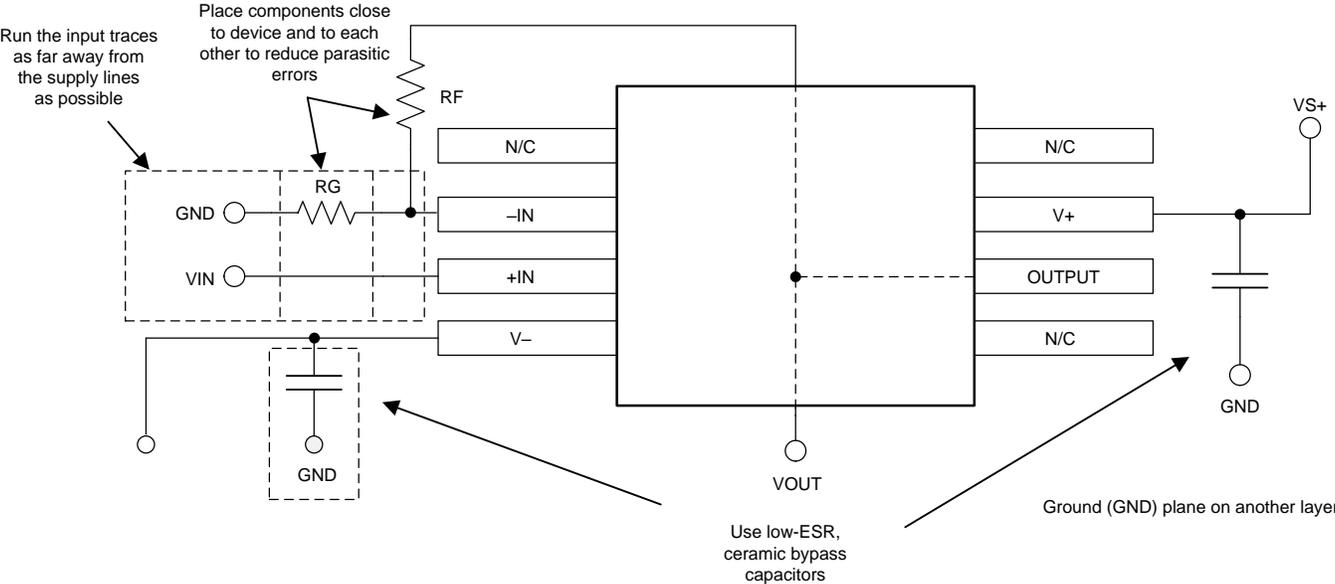

图 64. Operational Amplifier Board Layout for Noninverting Configuration
- Place the external components as close as possible to the device. As illustrated in Figure 64, keep RF and RG close to the inverting input minimizes parasitic capacitance.